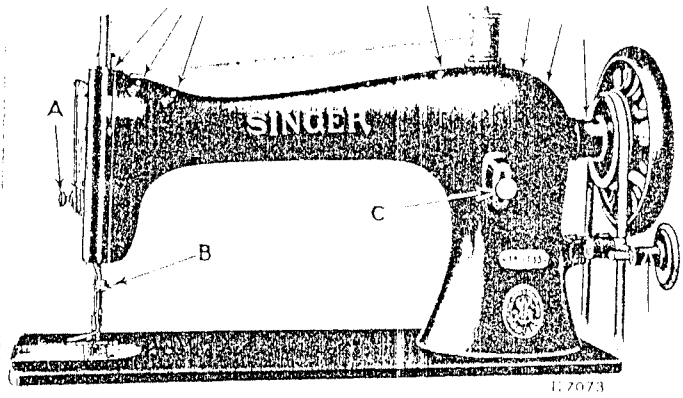

FIG. 2. OILING POINTS AT THE FRONT OF THE MACHINE
Oil should be applied at the places indicated by arrows in Figs. 2, 3, 4 and 5, and when the machine is in continuous use, it should be oiled at least twice each day.
Turn the balance wheel over toward you until the needle bar moves up to its highest point; loosen the screw (B, Fig. 2, page 4) in the needle clamp and put the needle up into the clamp as far as it will go, with the long groove of the needle toward the left and the eye of the needle directly in line with the arm of the machine, then tighten the screw (B).